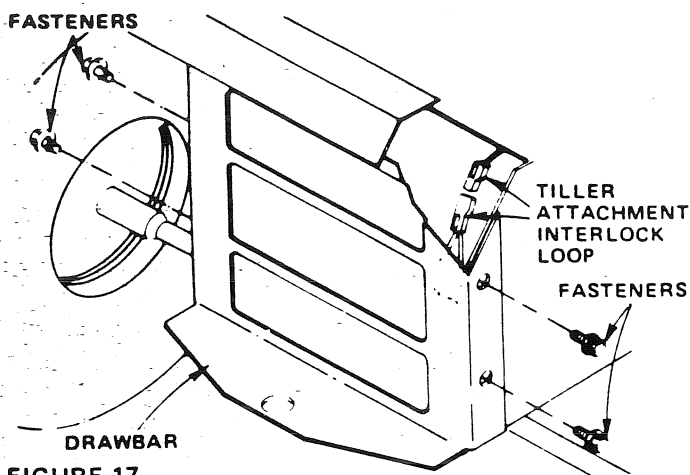

FIGURE 17
- a. Using a 9/16" wrench remove 4 fasteners to remove Drawbar (Fig. 17).
- b. Disconnect Tiller Attachment Interlock Loop (Fig. 17.)